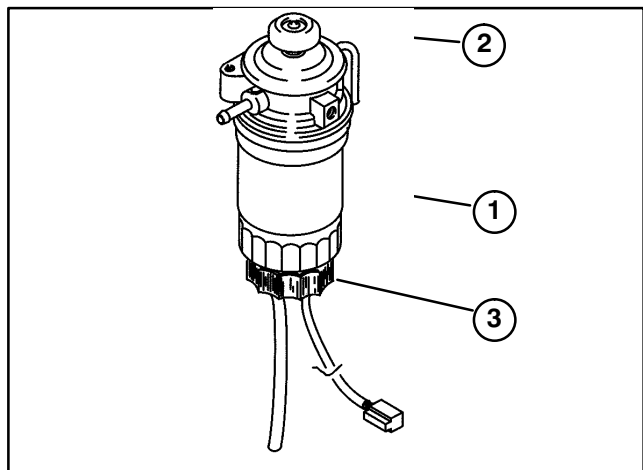

Figure 20
3. Open the drain plug on the fuel filter/water separator approximately one turn and drain any accumulated water. If necessary, operate priming pump to drain water (Fig. 20). Tighten the plug after draining.